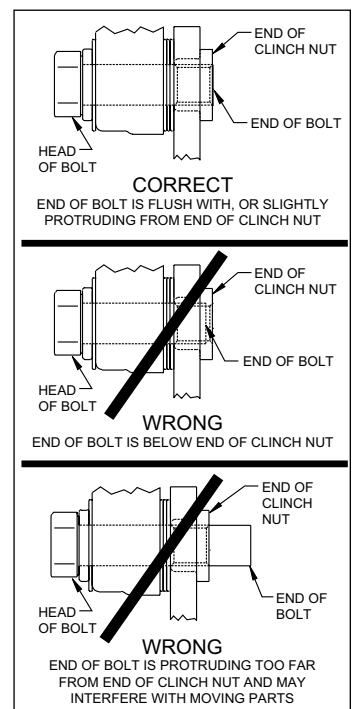

Figure 5. Clinch Nut Engagement Diagram
**CAUTION:** All mounting bolts must fully engage clinch nuts. Be sure to check that all bolts are either flush or protruding through flanged side of clinch nut after shimming, Figure 5.
- Temporarily tighten the caliper mounting bolts and view the rotor (4) through the top opening of the caliper. The rotor should be centered in the caliper, Photo 8. If not, adjust by adding or subtracting shims between the bracket and the caliper. Always use the same amount of shims on each of the two mounting bolts. **NOTE:** The end of each bolt must be flush with or slightly protruding from the head of the clinch nut, as shown in Figure 5. If necessary place spare shims between washer (6) and caliper mounting ear to achieve the proper clinch nut engagement. Once the caliper alignment and clinch nut engagement are correct, remove the bolts one at a time, apply red Loctite® 271 to bolt threads, and torque to 40 ft-lb.